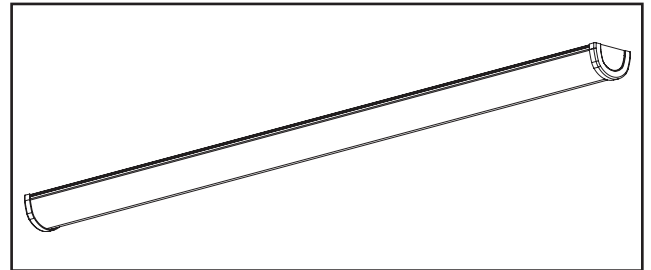

Figure 1.
1. Remove the lens from the incoming protective material and set aside. Wire luminaire according to code. (Figure 1.)